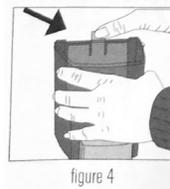

figure 4
1. Remove lid. Push latch out and detach dispenser from backplate. (Figure 4)